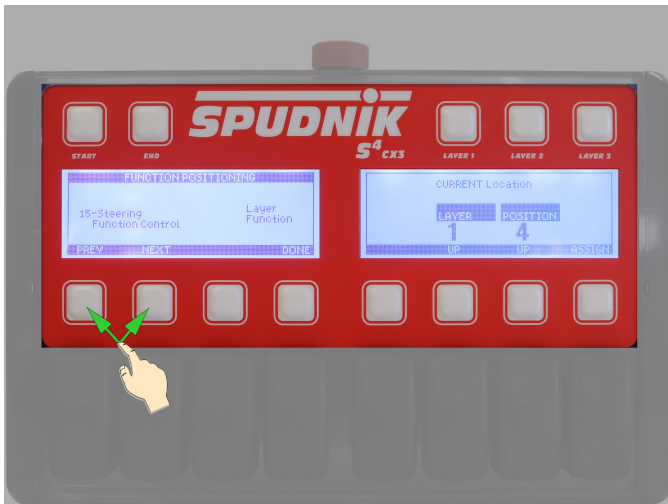

Figure 15
2. The *FUNCTION POSITIONING* screen opens in the left display and populates with the first entry. Use soft key 1 (*PREV*) or soft key 2 (*NEXT*), to scroll through the functions. (See Figure 15)